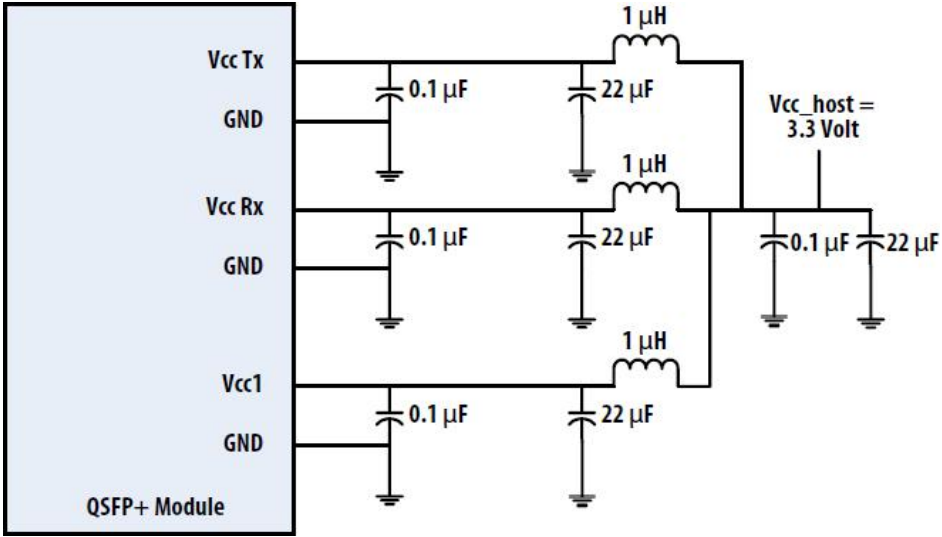

Figure 4 – Recommended Power Supply Filter
6. Receiver sensitivity ( $OMA_{outer}$ ) (max) is informative and is defined for a transmitter with a value of SECQ up to 3.4 dB. It should meet Equation (1), which is illustrated in Figure 4.